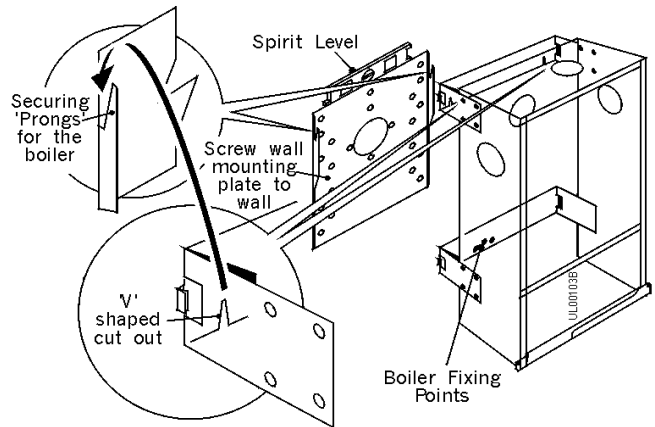

Fig. 32
13. Guide the flue assembly through the side flue outlet & hook the boiler onto the wall mounting plate, using the two 'V' shaped cut outs in the top mounting bracket. See Fig.32